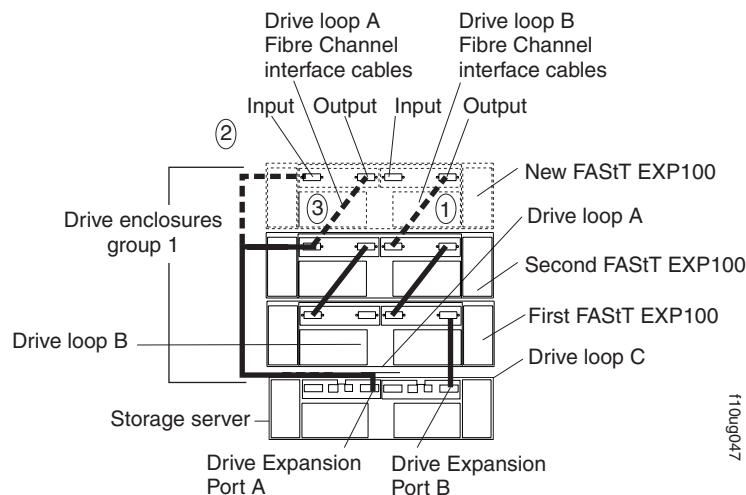

Figure 71. Cabling the FAST100 to a redundant loop
Figure 71 shows the process of adding an additional EXP100 to an existing FAST100 storage server configuration. Drive loops A and B form one redundant fibre-channel loop.
In Figure 71, the existing FAST100 configuration already includes two EXP100s. The dashed lines show you how to add a third EXP100 to the configuration. To add the new EXP100 shown in Figure 71, you would perform the following steps:
3. Make the fibre-channel connection marked 1 in Figure 71 (drive loop B). Then power on the new FAST EXP100 and verify that it is recognized by the Storage Manager software GUI.
4. Make the fibre-channel connection marked 2 in Figure 71.
5. Make the fibre-channel connection marked 3 in Figure 71 (drive loop A).